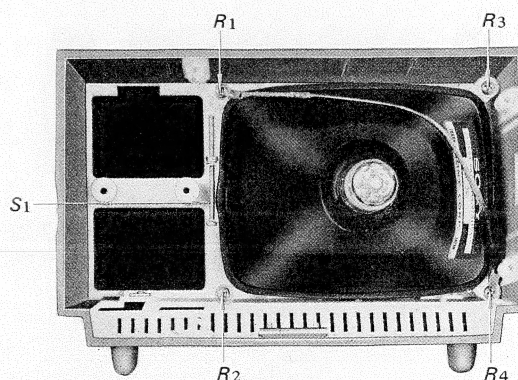

Fig. 2-20
6. Remove the four screws labeled R1–R4 in Fig. 2-20.
7. Loosen a screw labeled S1 in Fig. 2-20.